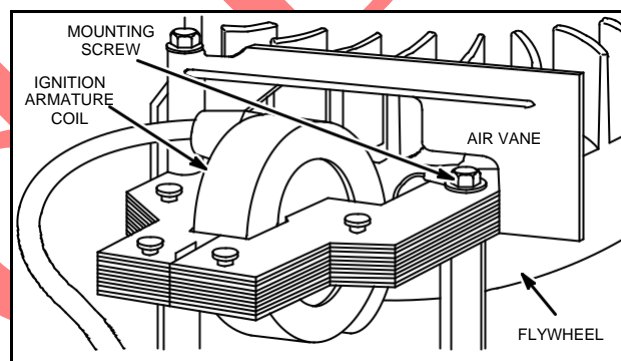

Fig. 100 – INSTALLING IGNITION ARMATURE AND AIR VANE, (TYPICAL)
2. Push ignition armature away from flywheel as far as possible and tighten one mounting screw, Fig. 100.